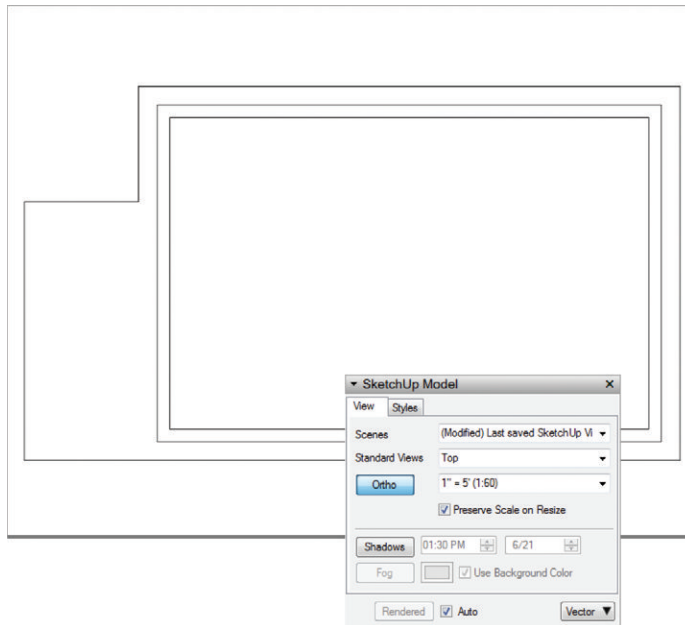

Figure 17.8 The 1" = 5'-0" scale maximizes the drawing on the sheet.
4. Assign the 1" = 5'-0" scale to the viewport, and then resize and reposition the viewport on the page as needed (Figure 17.8).